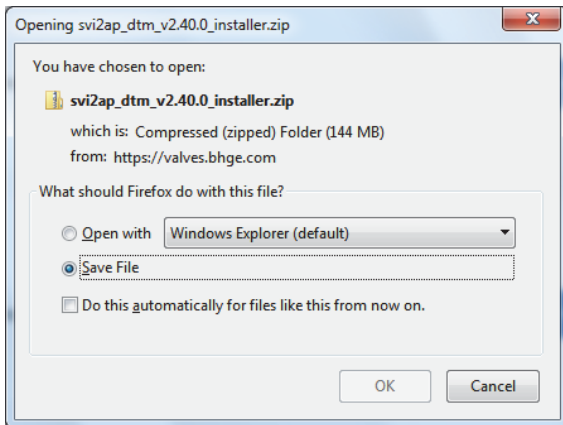

Figure 12 - Opening Dialog
2. Select **Download** below *SVI II AP DTM* and Figure 12 appears.